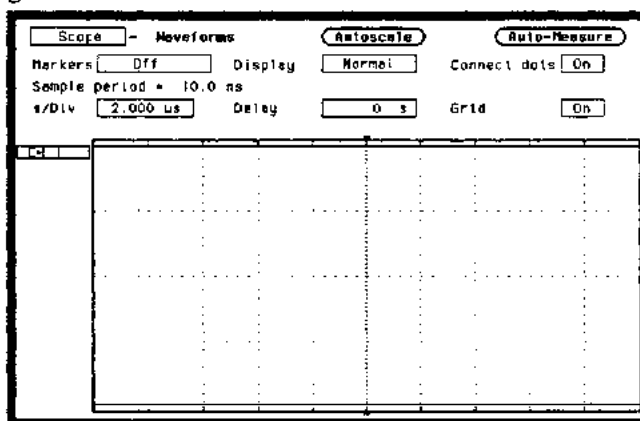

Figure 3-64. Waveforms Display Menu
6. Press **DISPLAY** and set **Display** to **Normal**, **Connect dots** **On**, and **Grid** **On** as in figure 3-64.